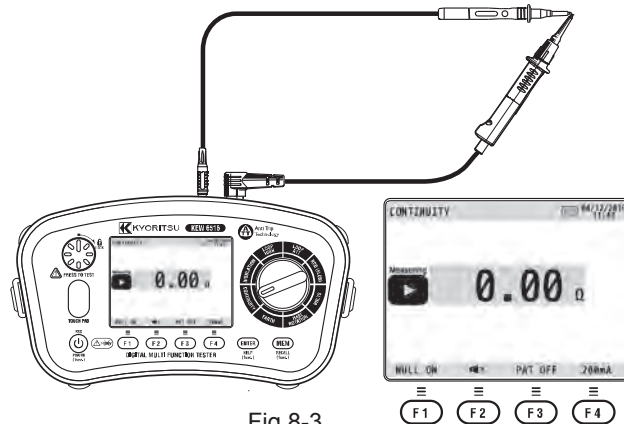

Fig.8-3
- (3) Connect the ends of the test leads firmly together (see Fig. 8-3) and press and lock down the test switch. The value of the lead resistance will be displayed. The " " symbol is displayed to the left of the reading during a measurement.
- (4) Press the F1(NULL) switch, this will null out the lead resistance and the indicated reading should go to zero.
- (5) Release the test switch. Press the test switch and ensure the display reads zero before proceeding. While using the Continuity null function, "NULL ON" is displayed on the LCD as indicated in Fig.8-3.